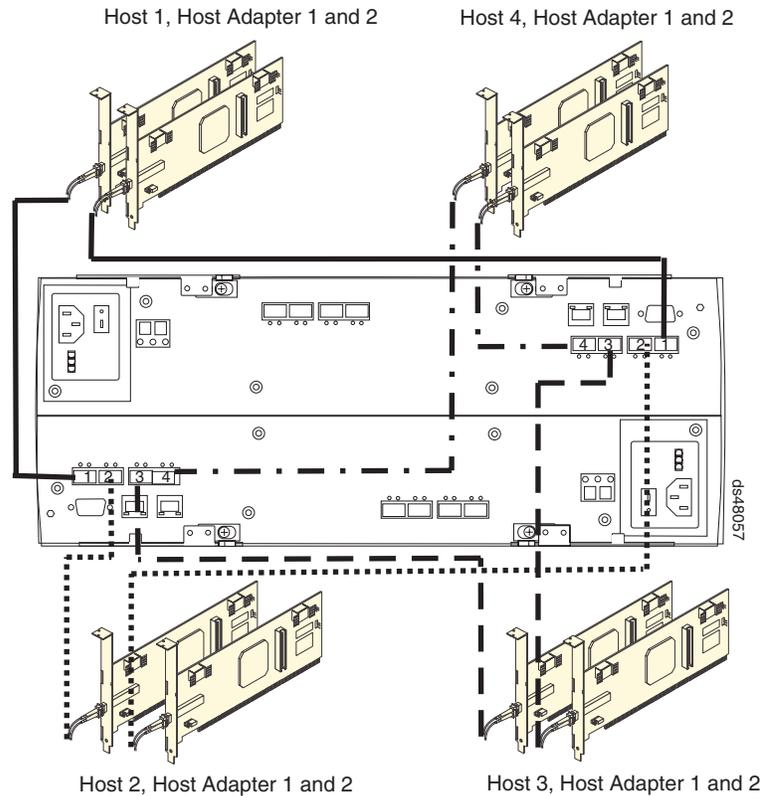

Figure 49. Cabling diagram for four redundant host connections
3. Repeat steps 1 and 2 for each additional redundant host connection. You can create a maximum of four redundant host connections, as shown in Figure 49 on page 65.